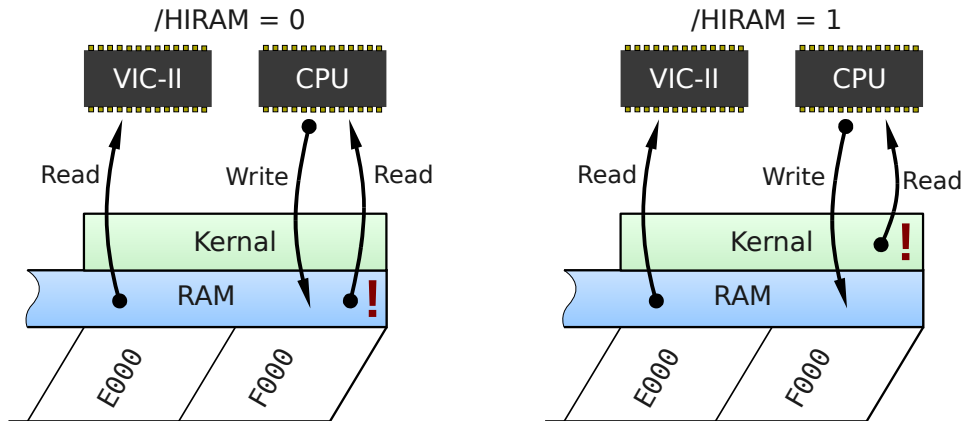

Fig 2: *HIRAM* controls access to Kernal memory space
`/HIRAM`, which is set in bit 1 of the I/O register `$01`. If `/HIRAM` is low (0), RAM is read. If it is high (1), Kernal ROM is read. Fig 2 shows this mechanism.